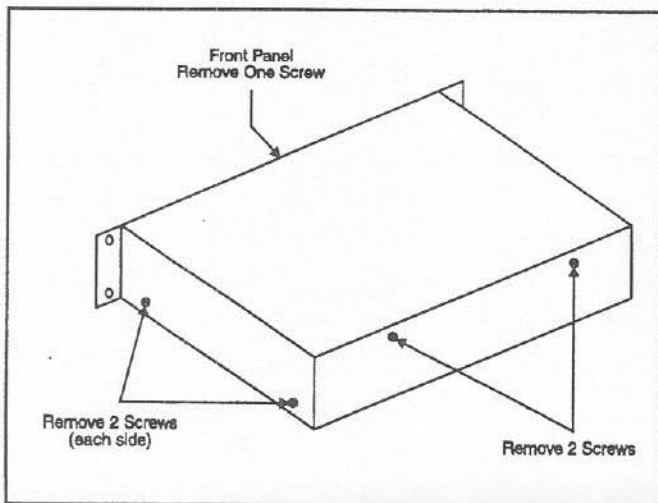

Figure 7: Top Cover Removal
2. Remove and save the seven screws securing the top cover. There are two screws on each side, two screws on the rear, and one screw inset into the front panel. Refer to Figure 7 for exact screw locations.